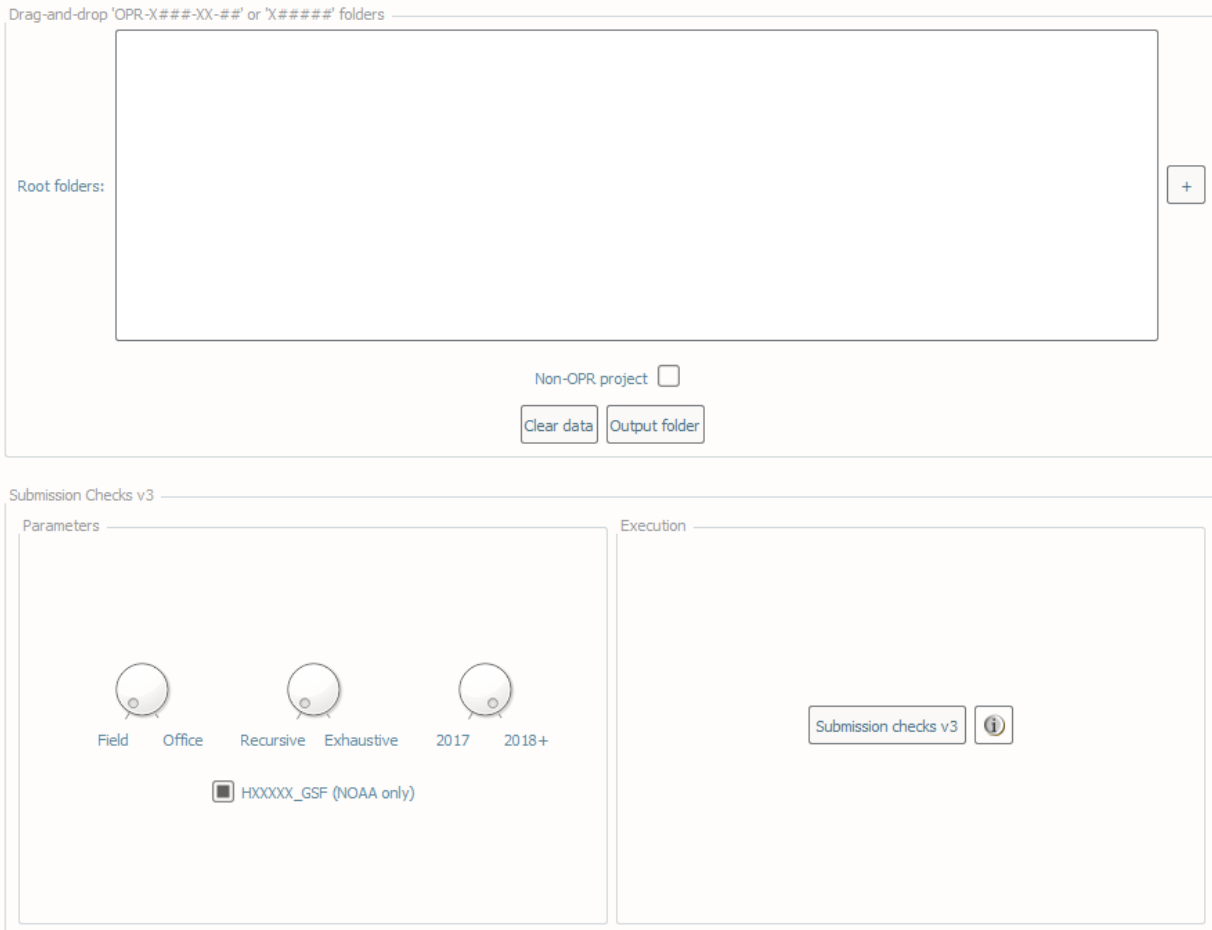

Fig. 2.31: The **Submission check** interface.
- In **Parameters** (Fig. 2.31, left side):
- In **Execution** (Fig. 2.31, right side), click **Submission checks v3**.